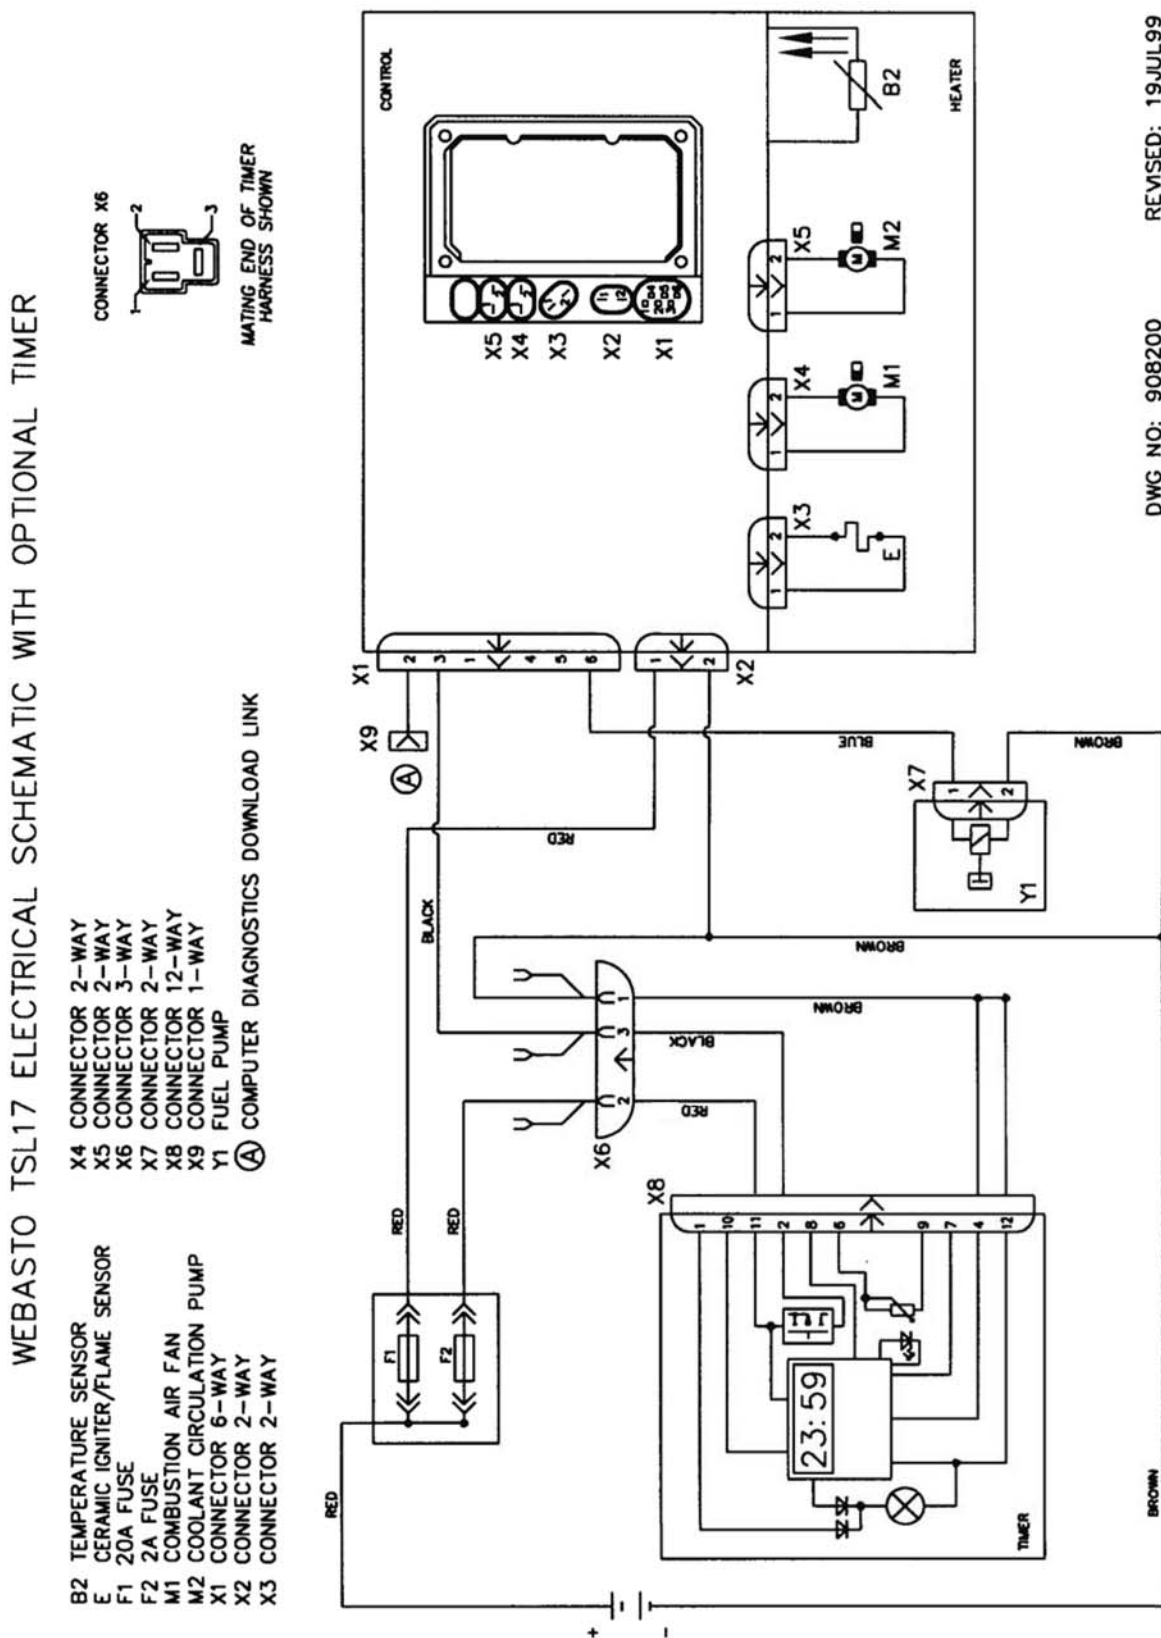

Fig. 411: Wiring Diagram - Thermo Top C (TTC) with Optional Digital Timer
6. Connect the terminals of the harness to the timer. See figure 409 below and wiring diagram figure 411 for reference.